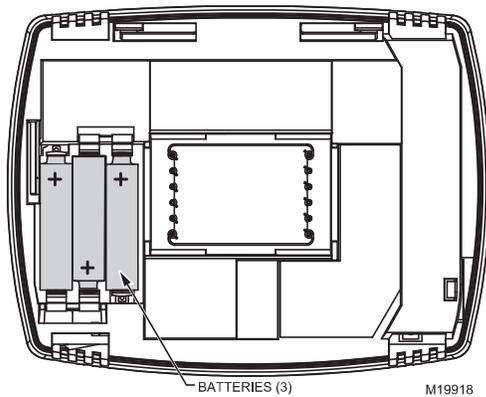

Fig. 22. Installing batteries.
1. Install three AAA alkaline batteries on the back of the thermostat as marked on the thermostat. See Fig. 22.